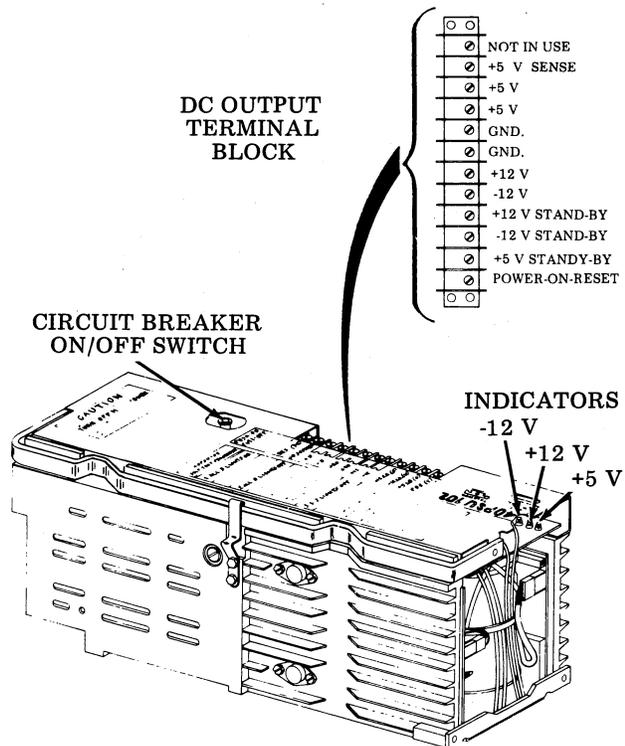

Fig. 5—40PSU102 Power Supply Features
2.05 The 40PSU102 power supply features a light emitting diode at the output of each of the regulator circuits (see Fig. 5). These diodes are visible from the top of the power supply. When lit, these diodes indicate that the power supply is on and that the 5 V dc and +12 V dc circuits are active.
2.06 The 40PSU102 ac input connector is located at the rear of the power supply. The circuit breaker which also functions as an on/off switch is accessible at the top of the supply (Fig. 5). The dc output terminal block (part of the ac/dc converter circuit card) is also accessible at the top of the power supply. All dc voltages and the power-on-reset (POR) signal for the controller logic are supplied from the output terminal block. A "Sense" terminal on the terminal block permits the monitoring of the +5 V dc under actual load conditions.